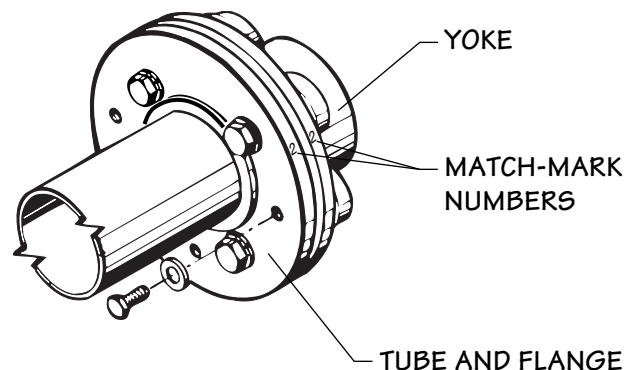

Figure 3 6Q Series shown
7. Replace the driveshaft tube and flange assembly. Be sure to match the numbers on the tube flanges with their respective numbers on the motor and Geareducer yokes. Install $\frac{5}{8}$ " machine bolts or cap screws in each end of driveshaft. Tighten to 60 ft·lbf (82 N·m) torque. See Figures 3 and 4.